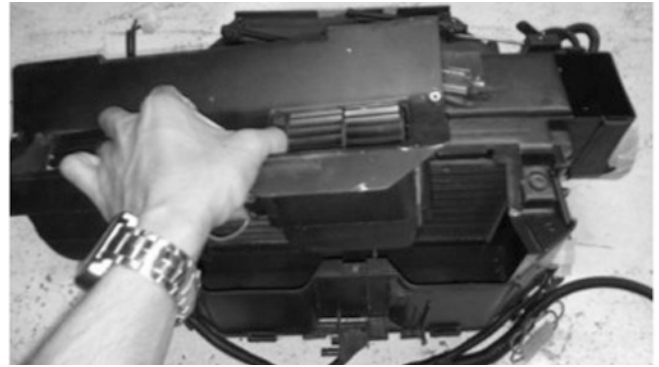
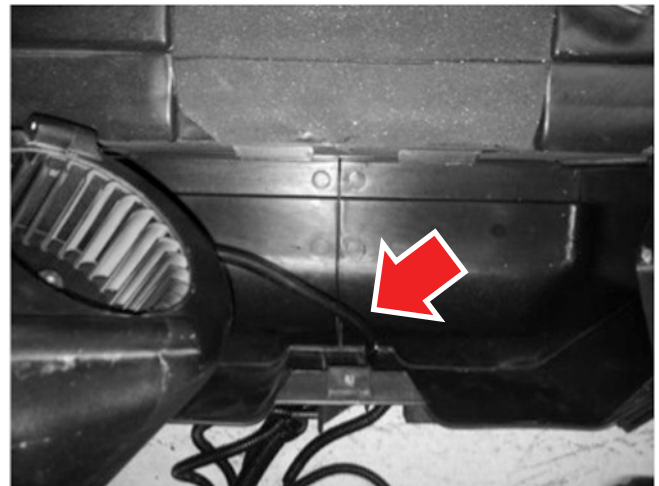

Figure 11-6
Figure 11-7
6. Remove the motor and discard (see Figure 11-6 and Figure 11-7).